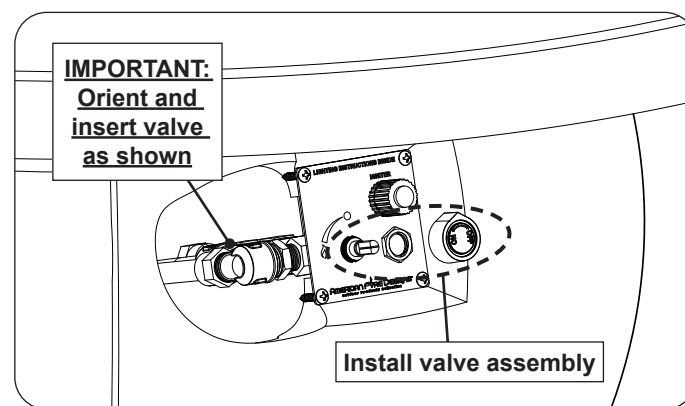

Fig. 31-3 Install valve assembly
6. Insert the valve assembly through the plate (in the base). Replace the nut onto the valve stem, and tighten. Reinstall the control knob. See Fig. 31-3.
**Important:** **Handle with care to prevent damage to the thermocouple and gas connections. Ensure the valve is oriented and inserted in the manner shown. See Fig. 31-3.**
7. Reconnect the 4-pin connector and the two 1/4" quick-connects (see Fig. 31-3).